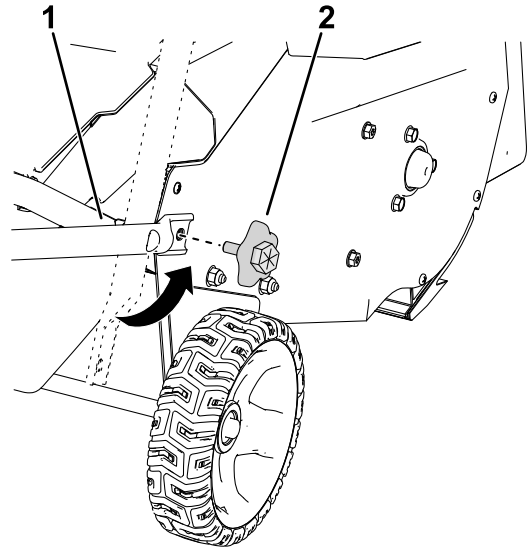

Figure 5
5. Move the lower handle into place and install the lower handle knobs as shown in Figure 5.